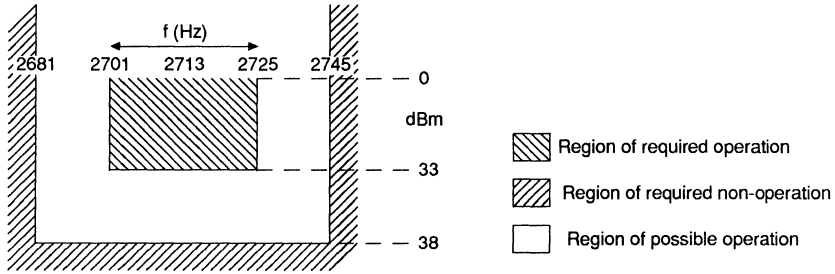

Figure 1. Control Tone Selectivity and Sensitivity
*Applied tone must meet requirements described above (See Figure1).